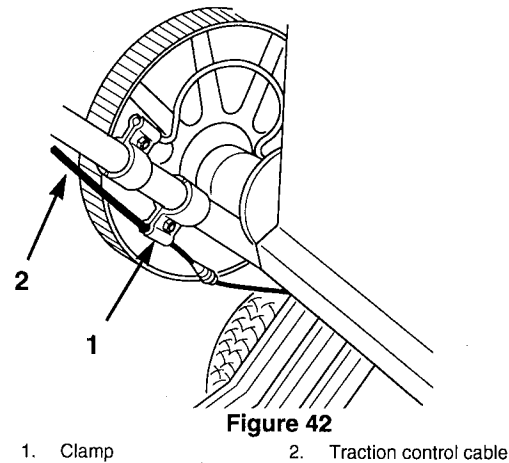

Figure 42
9. Using the carriage bolt and lock nut, loosely install a clamp for the traction control cable (Fig. 42). Next, insert the cable into the clamp and tighten the lock nut just enough to retain the cable. Now rotate the clamp so the traction cable fits between the chute and the handle bracket on the mower. While holding the clamp in place, slide the traction cable backward to remove slack and tighten the lock nut.